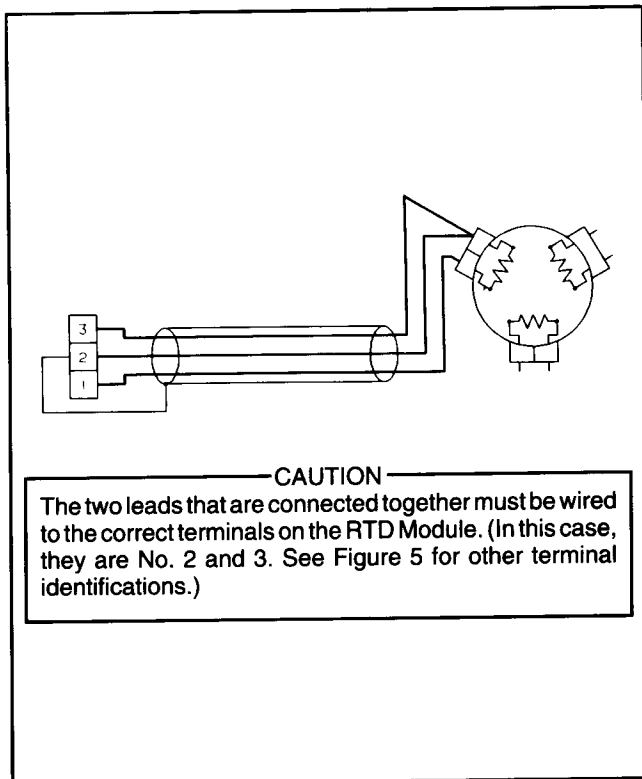

Fig. 6 Two-Lead RTD Wiring
3. Three conductors must be connected from the RTD to the Universal RTD Module. (Two return wires must be connected together.) In cases where the motor provides only two leads from the RTD, connect two of the three conductors together at one of the leads. Make this connection as close to the RTD as possible (see Figure 6). If only two conductors are connected between the RTD and the Universal RTD Module, then the IQ-1000 II, IQ-1000 or IQ-2000 motor protective devices will not operate correctly.